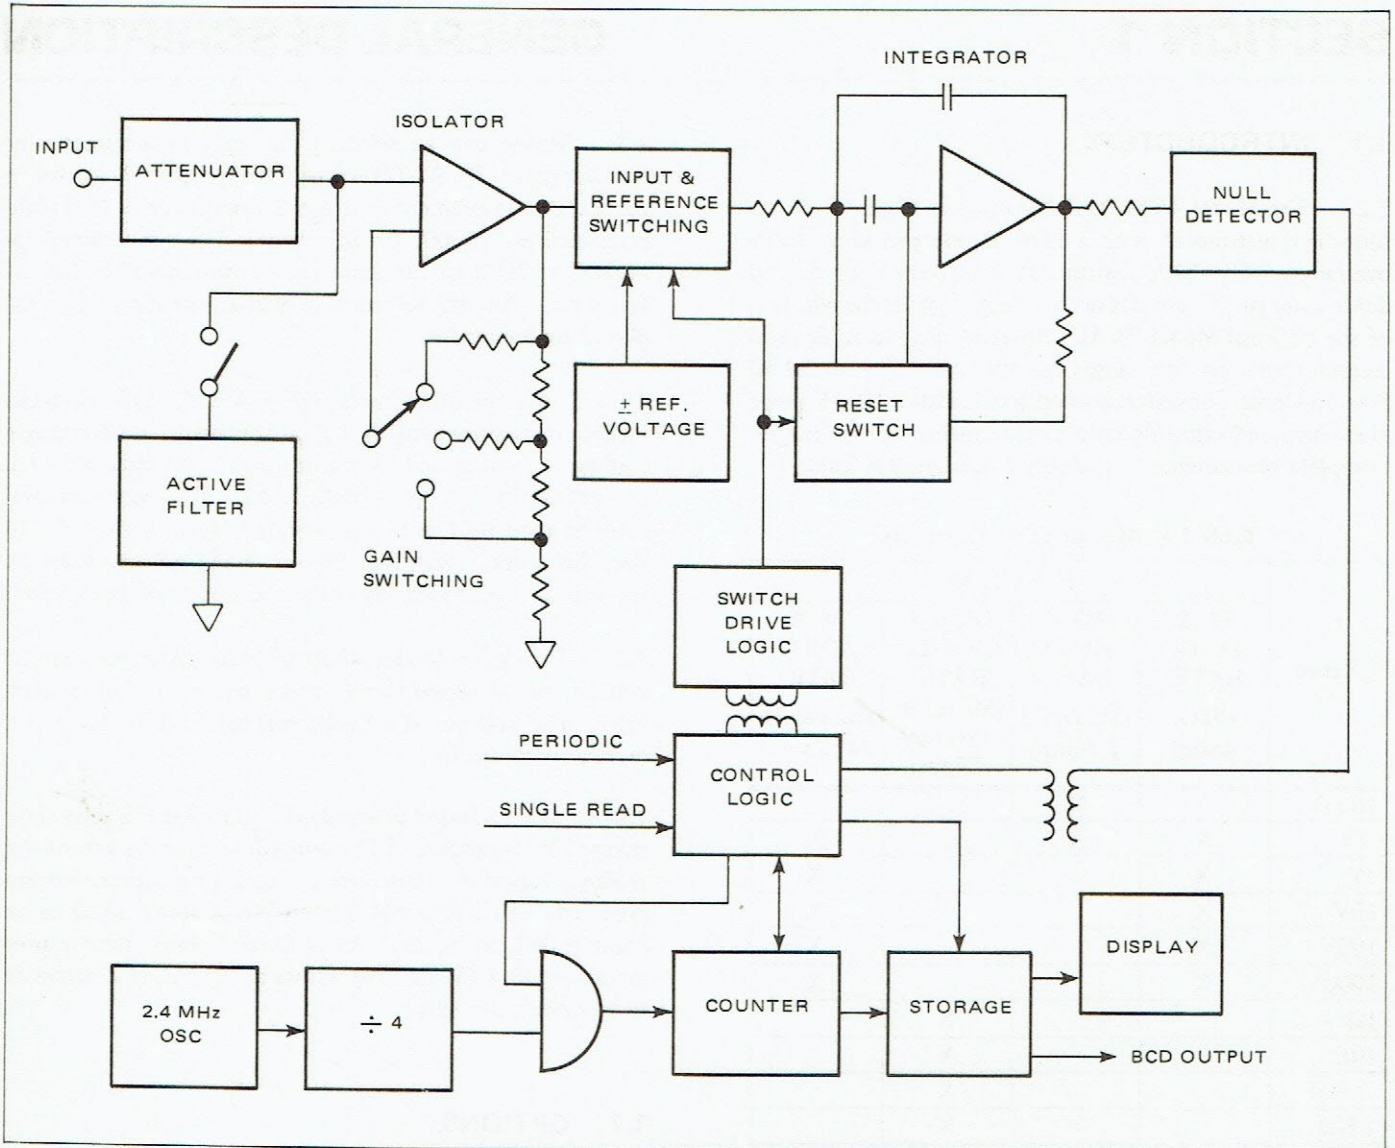

Figure 1.2 - Block Diagram - DC Measurement
1.26 A block diagram of the Model 4800 is shown in figure 1.2. A dc input signal is applied through the attenuator (voltage divider) to the Isolator amplifier. Ranging is accomplished by the voltage division of the attenuator combined with the gain of the Isolator. The Isolator output is a ten-volt full scale (20 volts in overrange) analog voltage representing the input.
1.33 The Control Logic (figure 1.2) generates control signals that operate the Integrator switches, counter, and Storage circuits at the appropriate time.